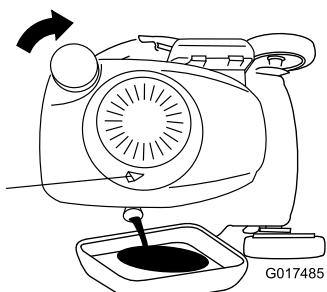

Figure 33
3. Tip the machine onto its side, with the dipstick down, to drain the used oil out through the oil-fill tube (Figure 33).